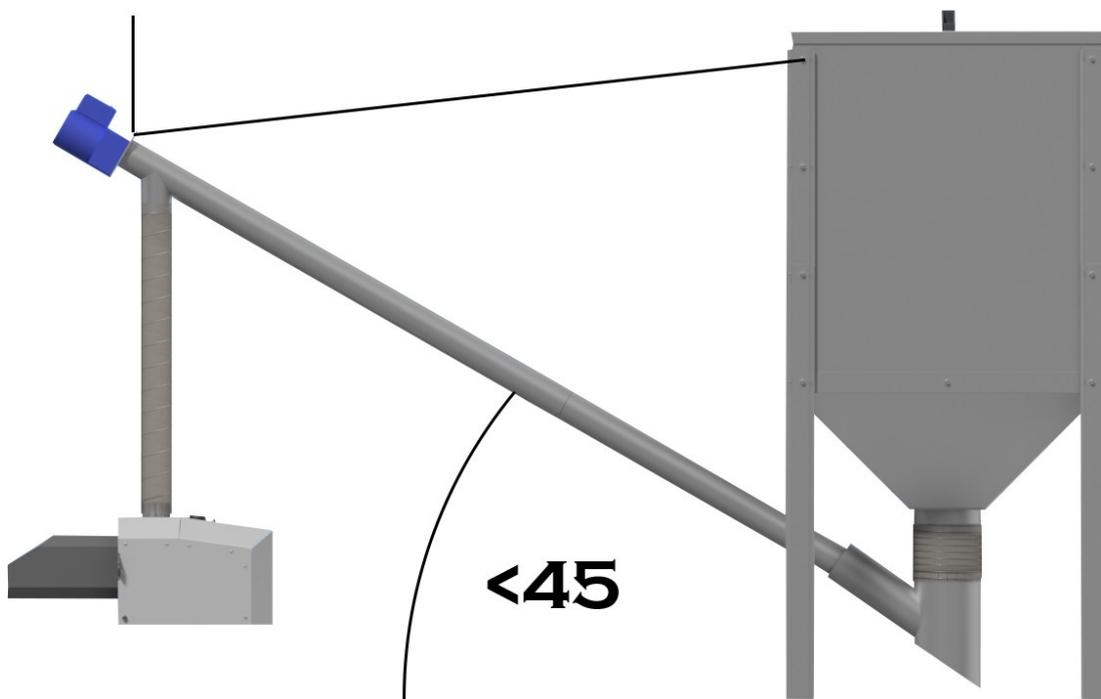

FIGURE 2
3. Measure and adjust the length of the pellet feeder, bearing in mind that the angle between the ground and the feeder pipe should not exceed 45°. (See Fig. 2)
4. Hang the feeder on a chain. (See Fig. 2).